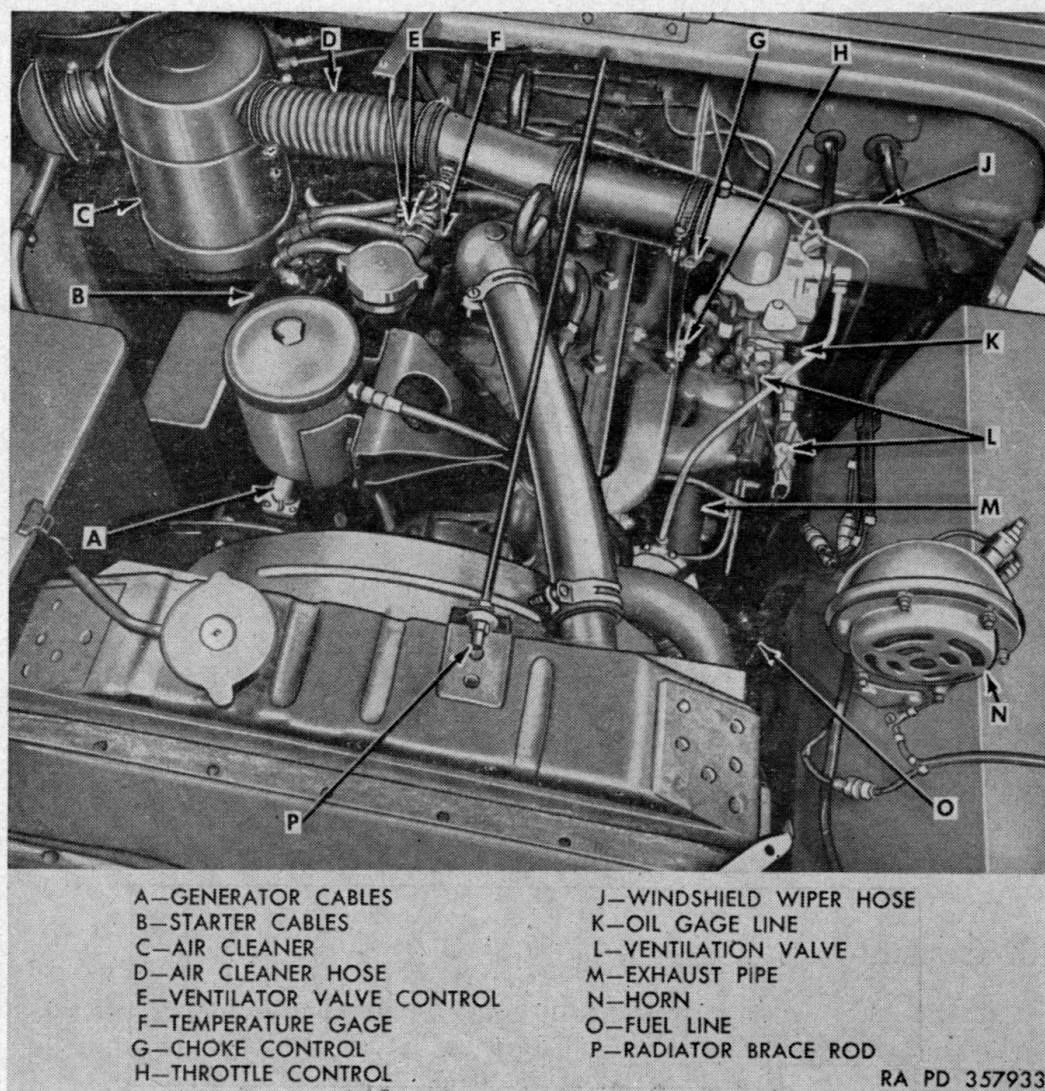

Figure 18. Engine compartment disconnect points.
b. REMOVE VALVE. Loosen valve spring cover front screw. Remove ventilator tube at valve, and remove ventilator valve (fig. 18).
(Fig. 18)
Disconnect the oil gage cable (fig. 18) at the flexible oil line, located on the left-hand side of the engine. Disconnect the water temperature gage sending unit cable on the right-hand side of the cylinder head (fig. 18).
## 81. Disconnect Exhaust Pipe (Fig. 18)
Remove the bolt and nut on the ventilating valve control bracket. Loosen the set screw on the ventilating valve mounted on the manifold and remove the ventilator valve control cable (fig. 18). Loosen the set screw on the ventilating valve directly to the rear of the oil filler tube and remove the ventilator valve control cable (fig. 6).
Connect cable to the water temperature gage sending unit at the right-hand side of the engine (fig. 18). Connect the oil pressure gage cable at the flexible oil line on the left-hand side of the engine.